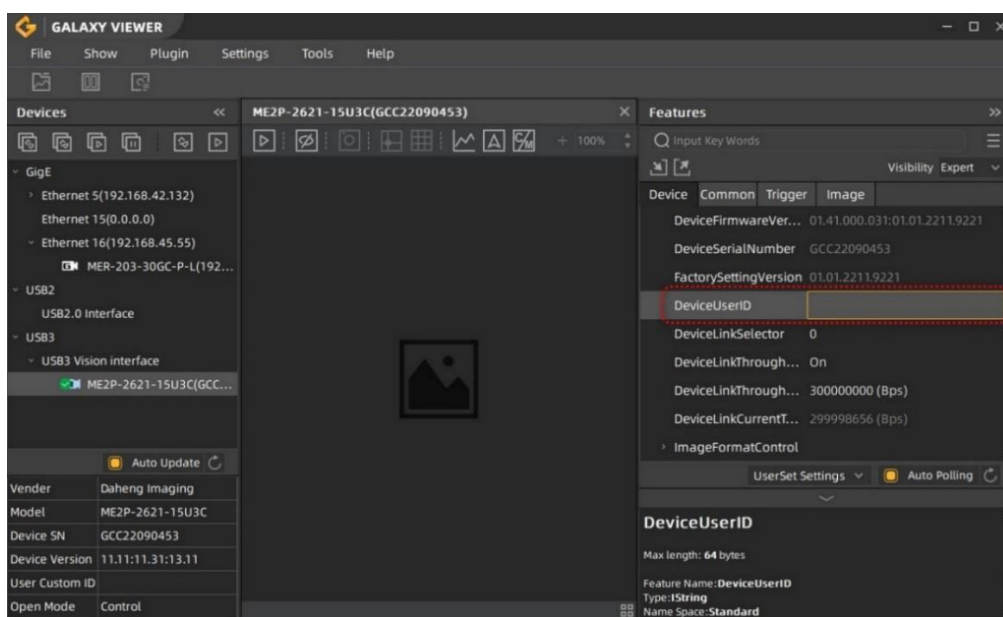

Figure 8-47 GalxyView software
- 1) Set by the GalxyView, as shown in the Figure 8-47.